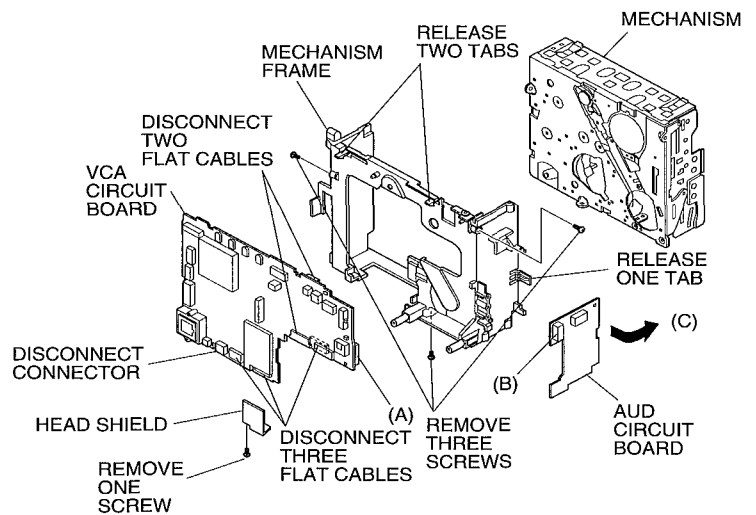

Fig. 2-12
2.11 VCA Circuit Board, AUD Circuit Board, Mechanism Frame, Mechanism (Fig. 2-12)
- (9) Remove the VCA circuit board and mechanism frame. (See Fig. 2-12)